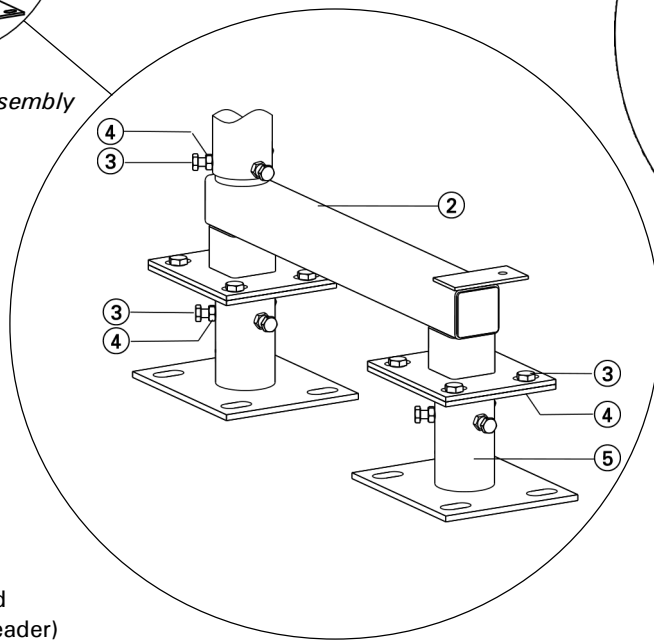

Fig. 8
1. Attach distribution manifold (1) to manifold supporting feet (2), using supplied M10 bolts (3) and M10 nuts (4).
2. Attach manifold supporting feet to adjustable legs (5) using supplied M10 bolts (3) and M10 nuts (4). Anchor to concrete floor using supplied concrete anchors (not shown) (see Fig. 8).
3. Install the four supplied wall attachment brackets (6) to boiler mounting beam (7), using supplied M10 bolts (3) and M10 nuts (4).